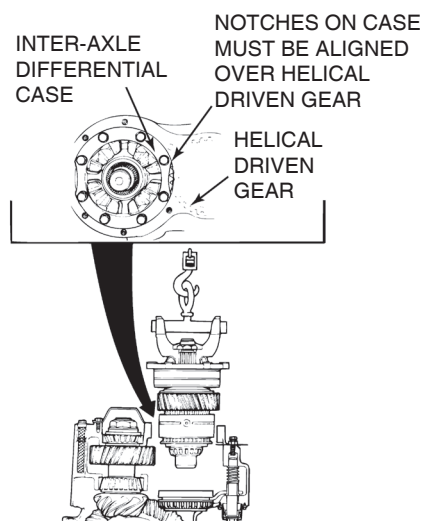

Figure 5.80
- C. On 160 Series differentials, rotate the inter-axle differential case so that one of the notches on the case is aligned with the helical driven gear in the differential. Figure 5.80.